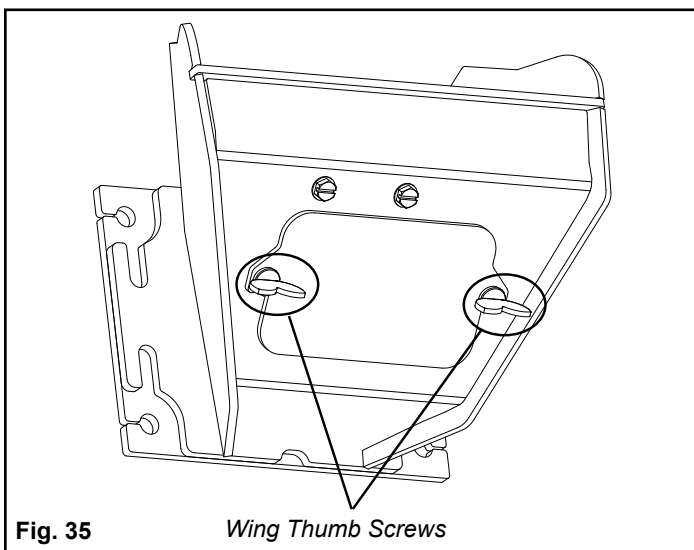

Fig. 35
1. Loosen the (2) wing thumb screws on the lower front angle of the burn pot. (Fig. 35)
2. Lift off the clean-out cover (Fig. 35) to open the bottom clean-out chamber. (Fig. 36)